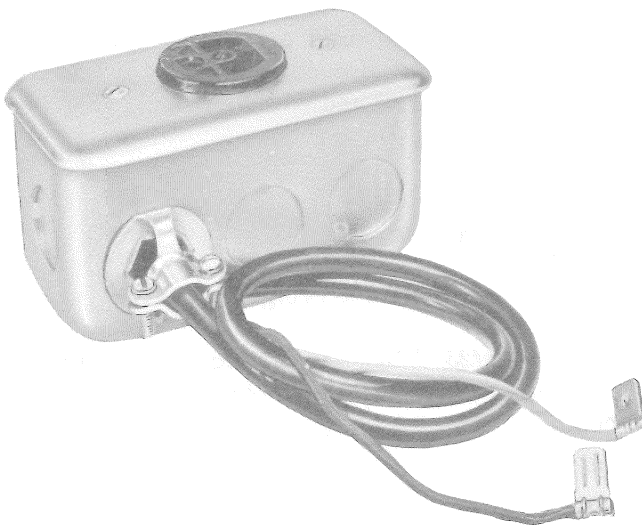

Fig. 2—KS-19580, List 51 Receptacle Assembly
2.12 In multiple installations, a KS-19580, List 51 receptacle assembly (Fig. 2) must be used